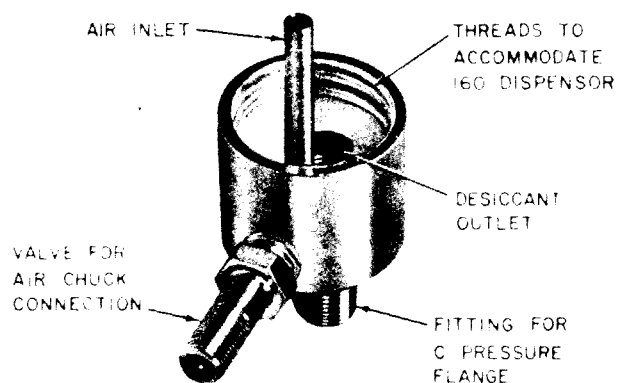

Fig. 1—B Desiccant Injector
3.01 The B desiccant injector (Fig. 1) consists of the following: